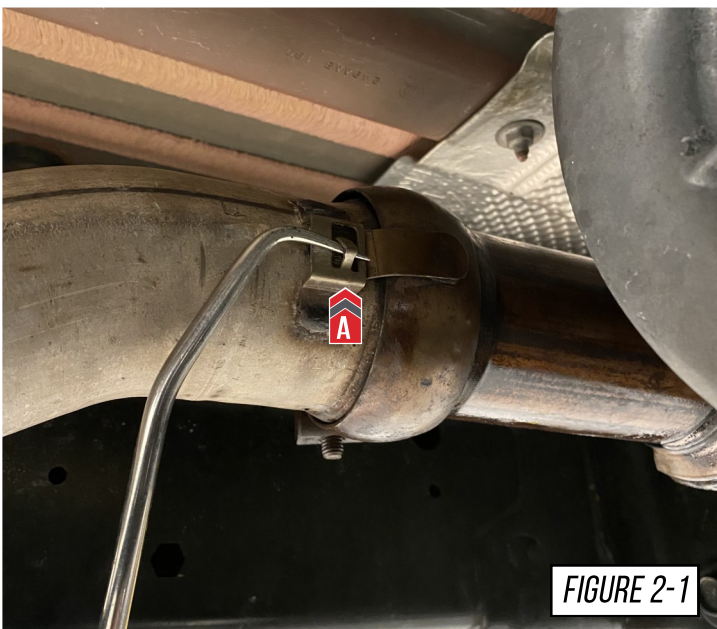
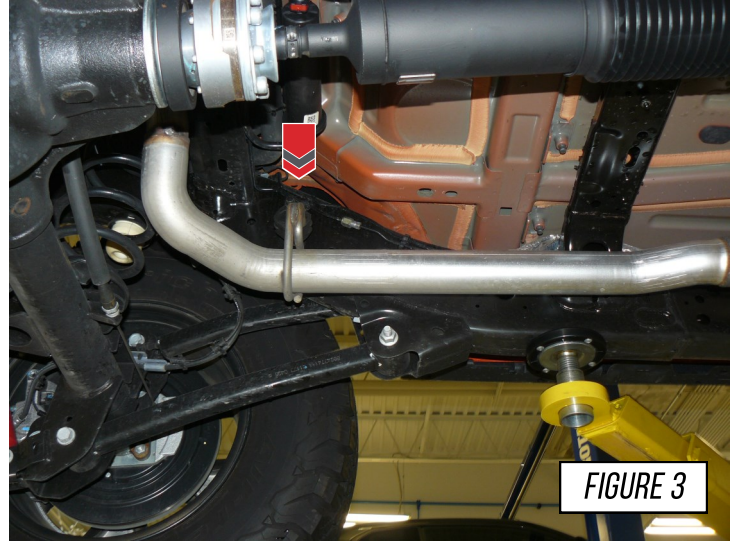

FIGURE 2-1
FIGURE 2-2
To do so insert a pick and bend the tab out (A) as shown in **Figure 2-1**. Next pull the ball socket clamp off of the slip joint (B) as shown in **Figure 2-2**.